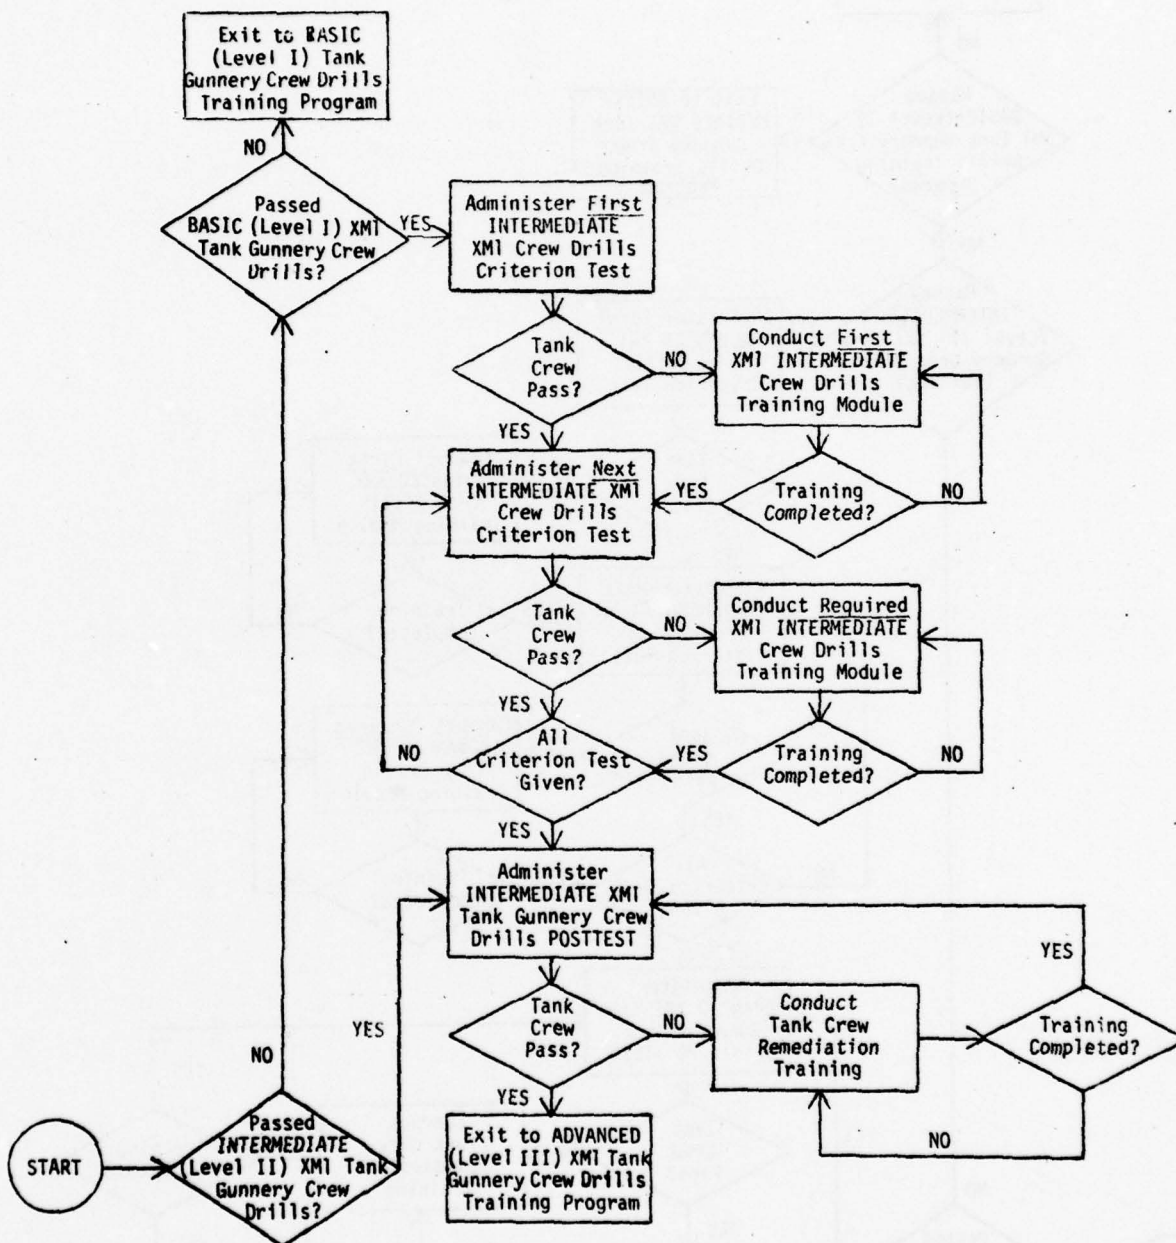

Figure 2. Training Selection Algorithm for Intermediate (Level II) XM1 Tank Gunnery Crew Drills Training.
- b. INTERMEDIATE. (Refer to Figure 2.)